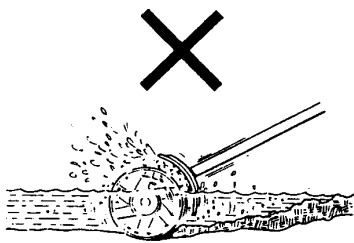

Fig. 10
- Do not use the unit in water or rooted, vine area. (Fig. 10 & 11)